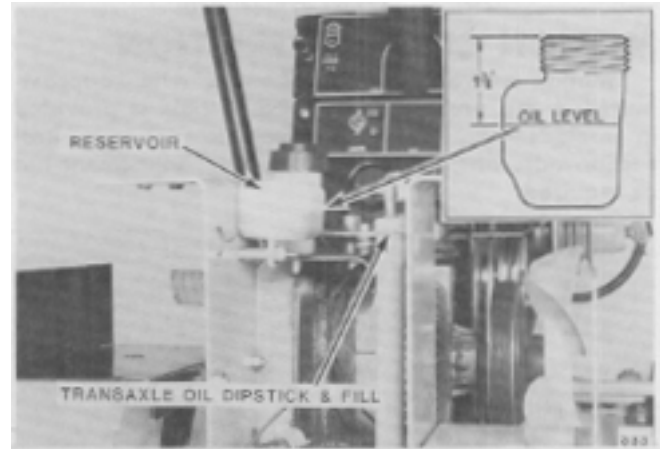

FIG. 13. Transmission Oil Fill
8. Install reservoir and fill to prescribed level with oil (Fig. 13). Reinstall transmission as described under "Transmission Installation" in this section.
8. Secure reservoir to seat support bracket (Fig. 13).
11. If applicable, fill transmission reservoir to level as shown in Figure 13. Remove tape covering vent hole in cap.